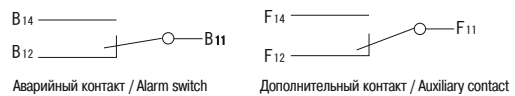

Рисунок 2 – Схема электрическая устройства / Figure 2 – Electrical diagram of the device
The electrical diagram of the device is shown in figure 2.
- Perform electrical connection of the device according to figure 2 and table 2;
- Using a multimeter, check the state of contacts according to figure 2 and in the actual MCCB "TEST" position, in the "OFF" position and in the "ON" position.